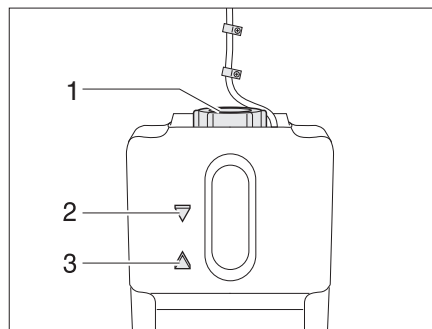

Fig. 393 Compensator reservoir hot-water heater
- Check if the fluid level is between the marks "MIN" (Fig. 393,3) and "MAX" (Fig. 393,2) on the compensator reservoir (Fig. 393).
- Open the rotary lid (Fig. 393,1) on the compensator reservoir.